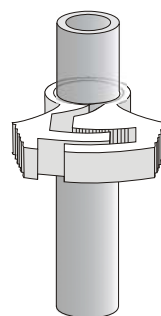

Figure 2
- c. Slip a plastic tubing clamp onto the tubing as shown in Figure 2.